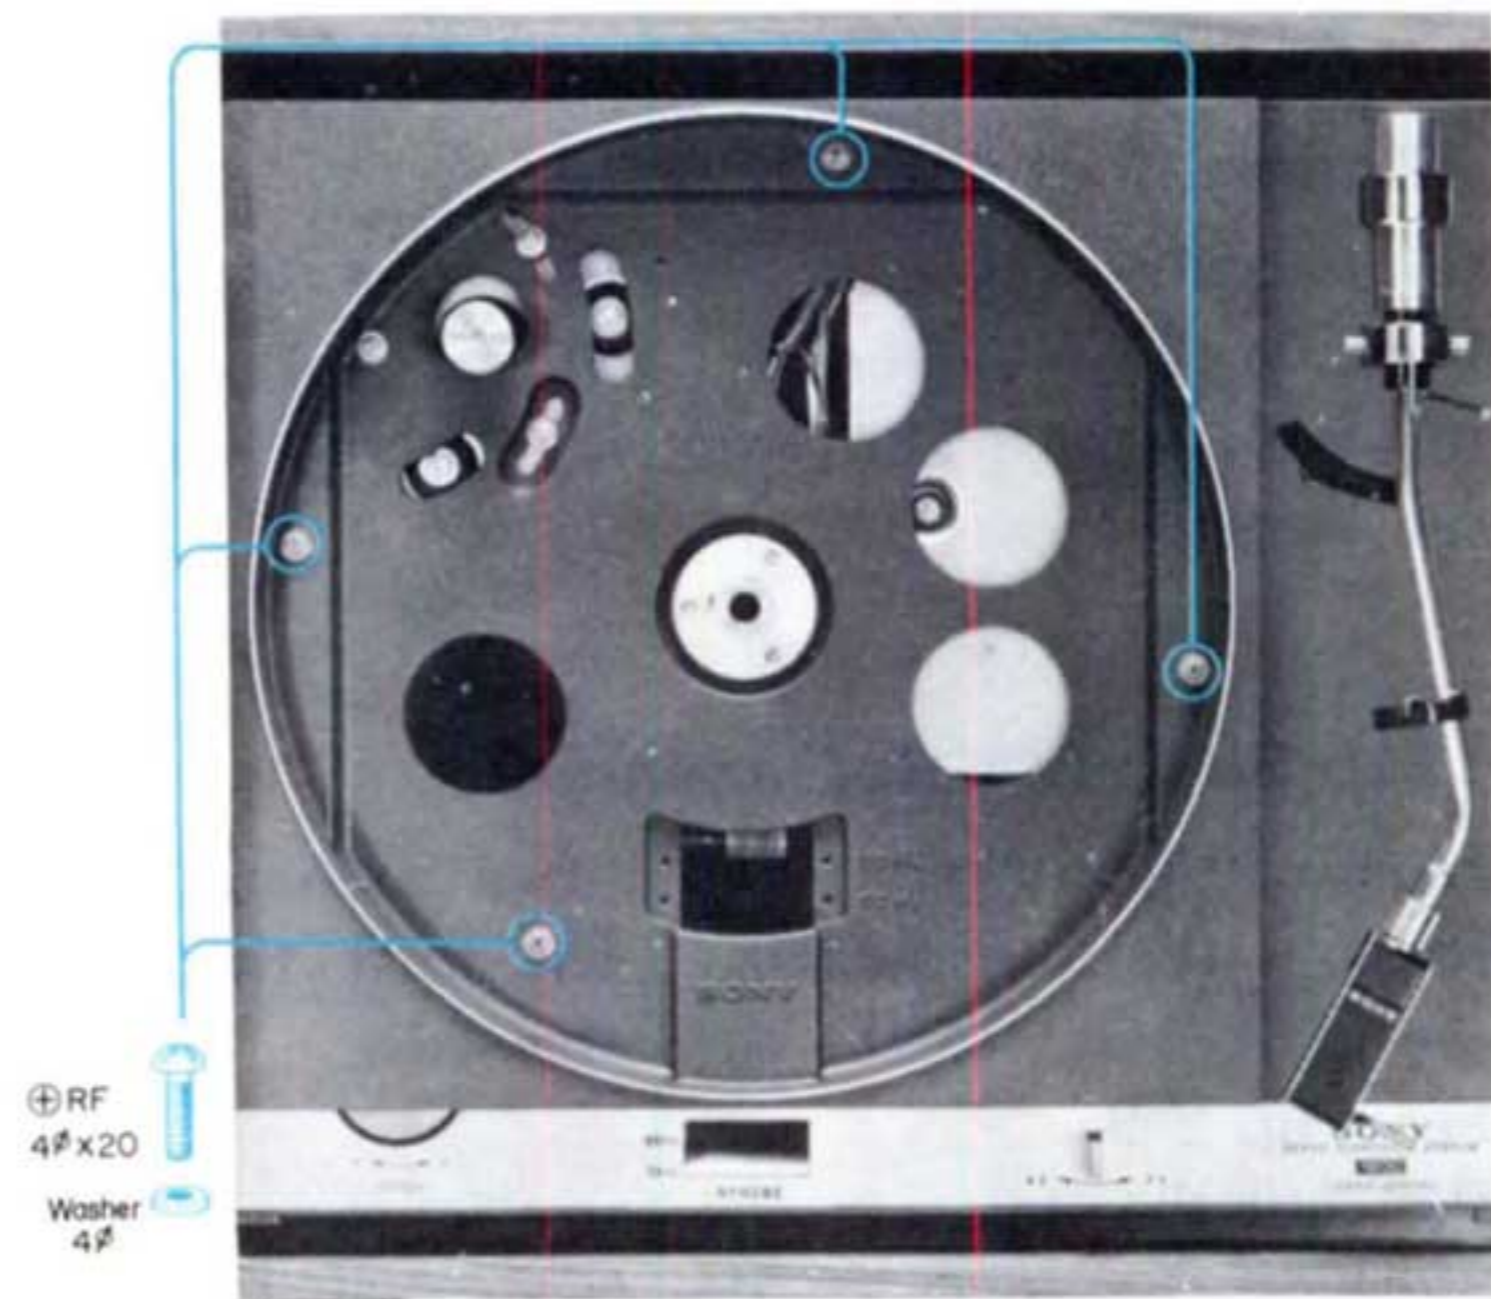

Fig. 2-6 Transit Screw for Turntable Base
3. Remove the four transit screws (+RF 4φ × 20) from the turntable base as shown in Fig. 2-6 if they have not yet been removed.